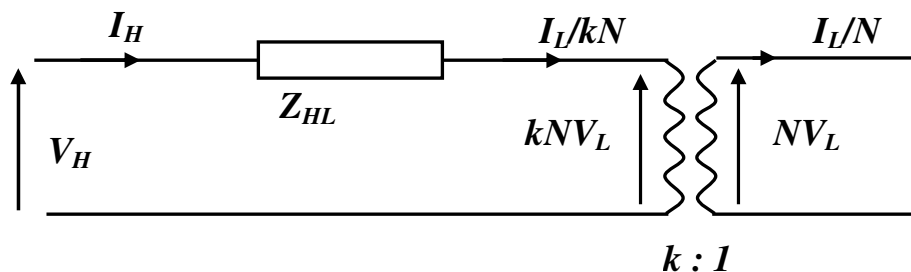

Figure 1.1
- (i) Describe why electrical power systems require protection. (1)
- (ii) Draw a diagram showing the key components of a simple protection system and briefly describe their function. (3)
- b. Sketch a diagram showing the main components of an induction relay and explain its operation. (3)
- c. Explain why tap changing transformers are used in a power system and describe the difference between an off-load and an on-load tap changing transformer. What is meant by an “off-nominal transformer”? (3)
- d. Figures 1.1 and 1.2 show a per-phase circuit of a tap-changing transformer and an equivalent ‘ π ’ network respectively. By consideration of the no-load voltage transformation ratios and short circuit impedances, show that the parameters A, B and C may be represented as: